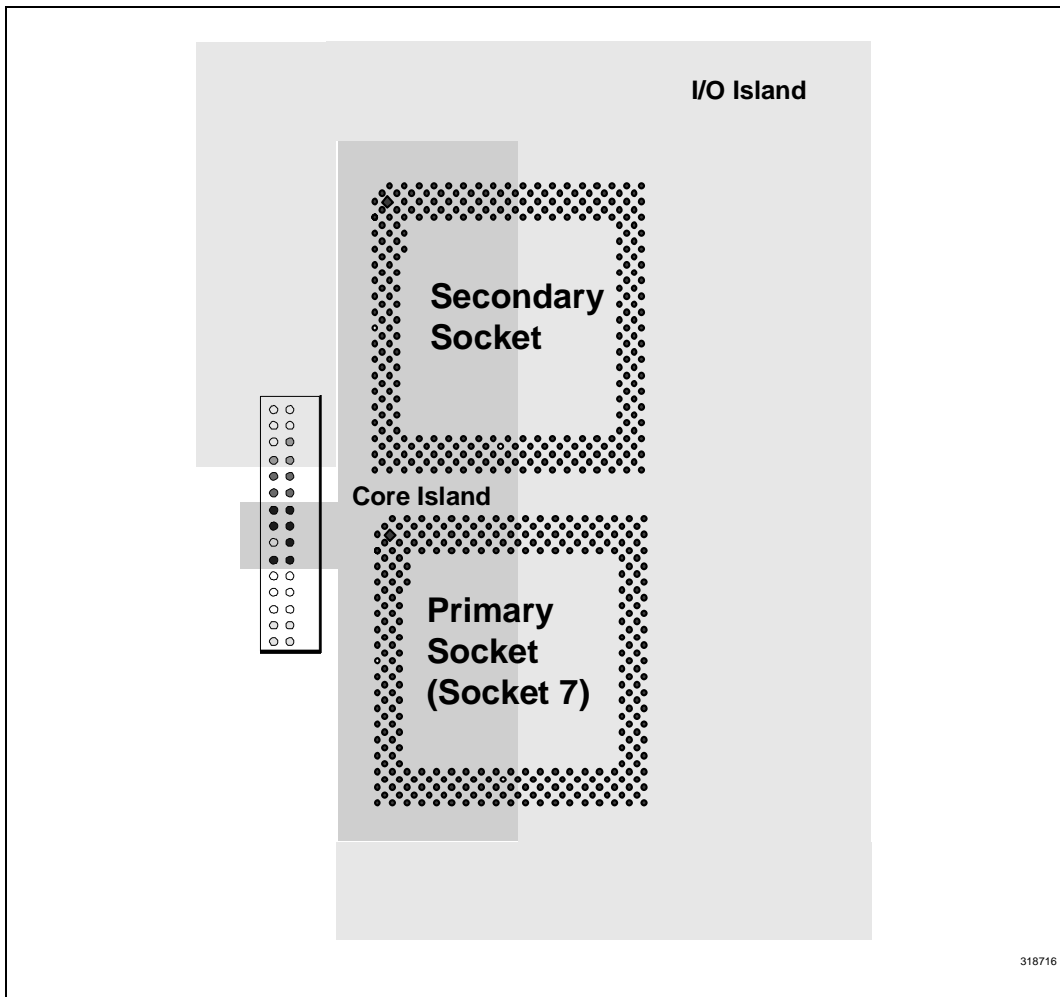

Figure 16. Layout of a DP Flexible Motherboard
The Pentium processor family flexible motherboard may also be designed as one planar board to support uni-processor (UP) and dual-processor (DP) modes. This provides the flexibility of using the same motherboard populated with either one socket (for UP system) or two sockets (for DP system.) Figure 16 shows the layout for a split plane flexible motherboard designed with two sockets.